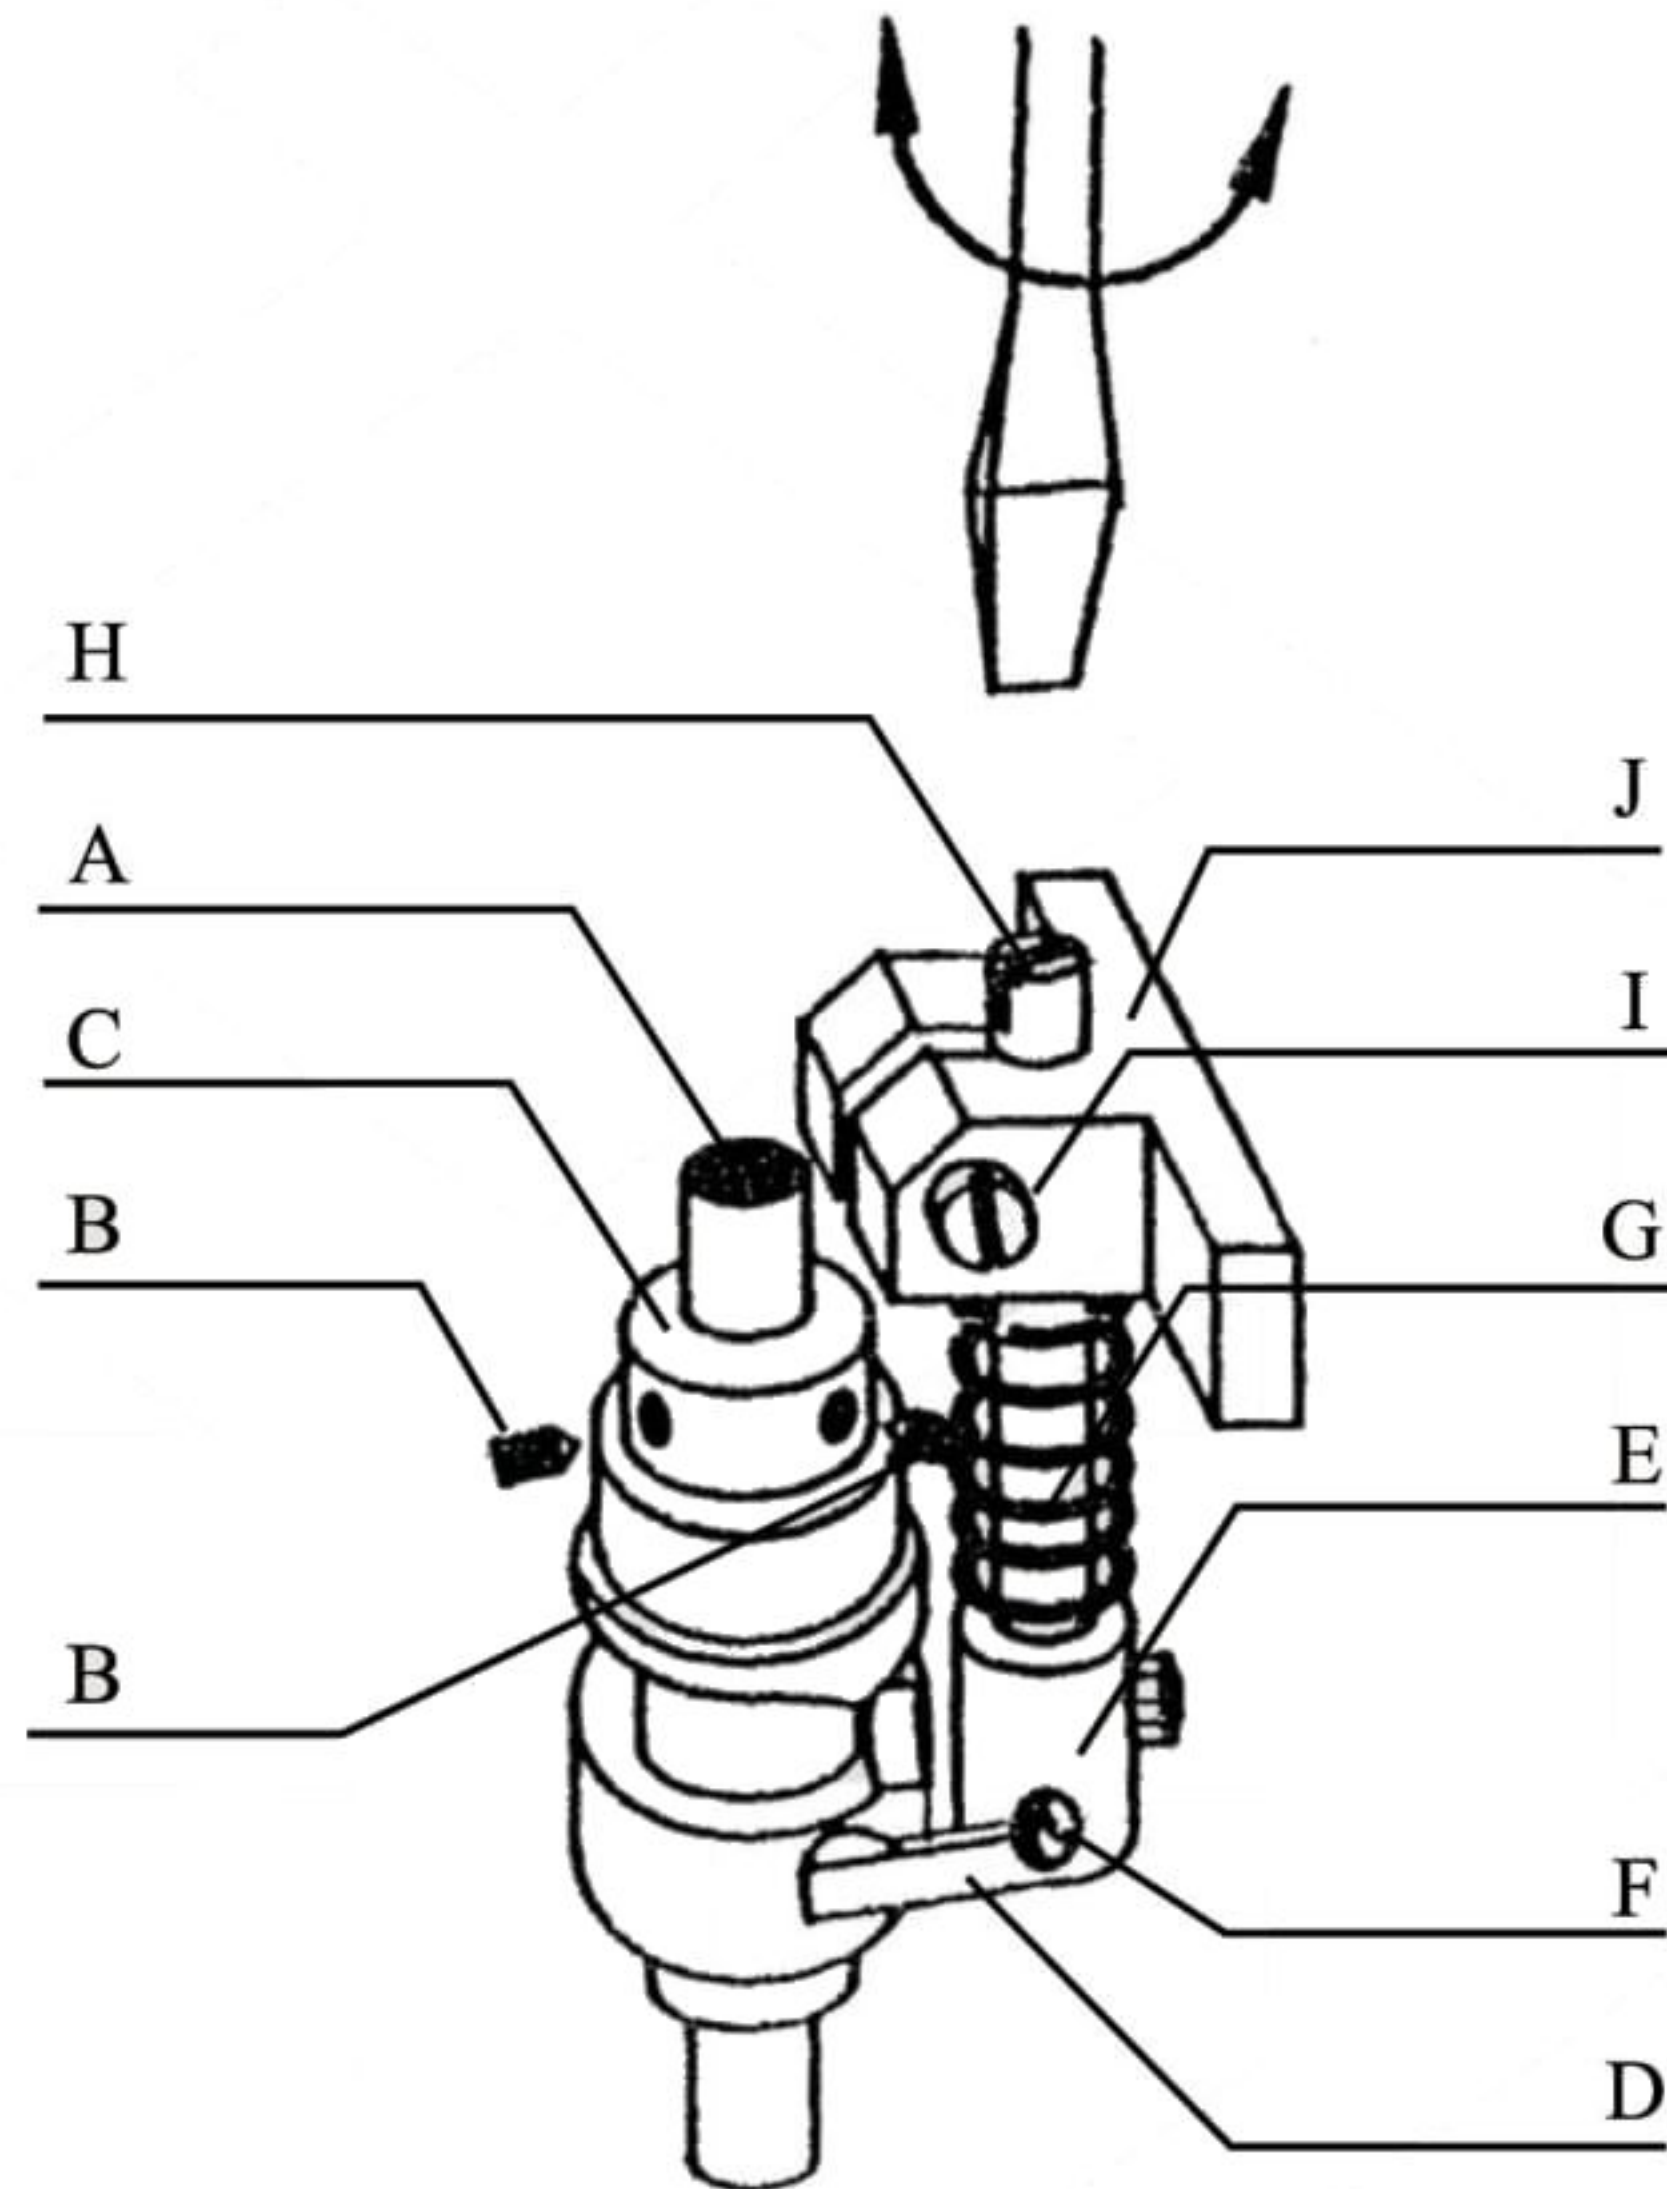

FIG. 12
F. Replacement and adjustment/Cam & Mechanism of looper. (See Fig. 12)
- a. Loosen screws (B) and adjust the crank of looper (D) so as to make the transmission between Cam (C) & crank (F) smooth, then tighten screw (H).
- b. The distance between cam (C) and crank (E) could be adjusted through the adjustment of spring pressure. Loosen screw (I) and loosen or tighten the spring supporter (H) with screw driver to adjust an appropriate pressure of spring (G). After adjustment fix the screw (I) again.